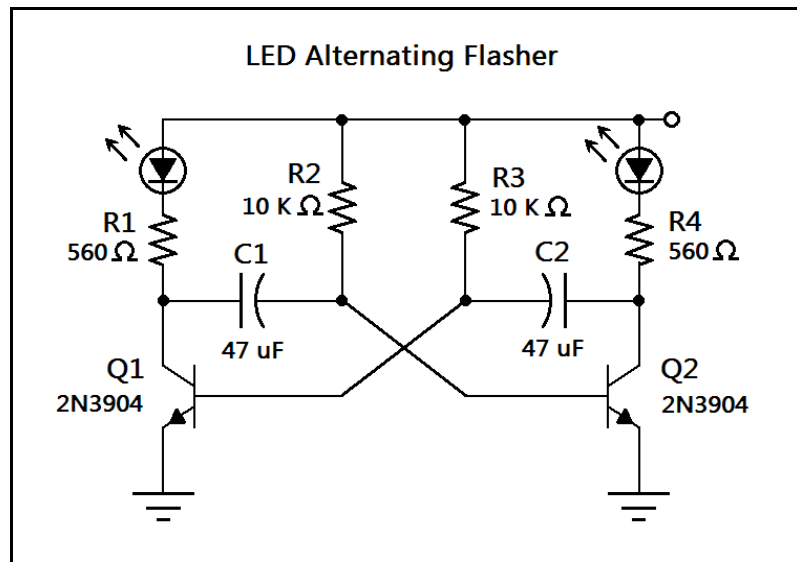
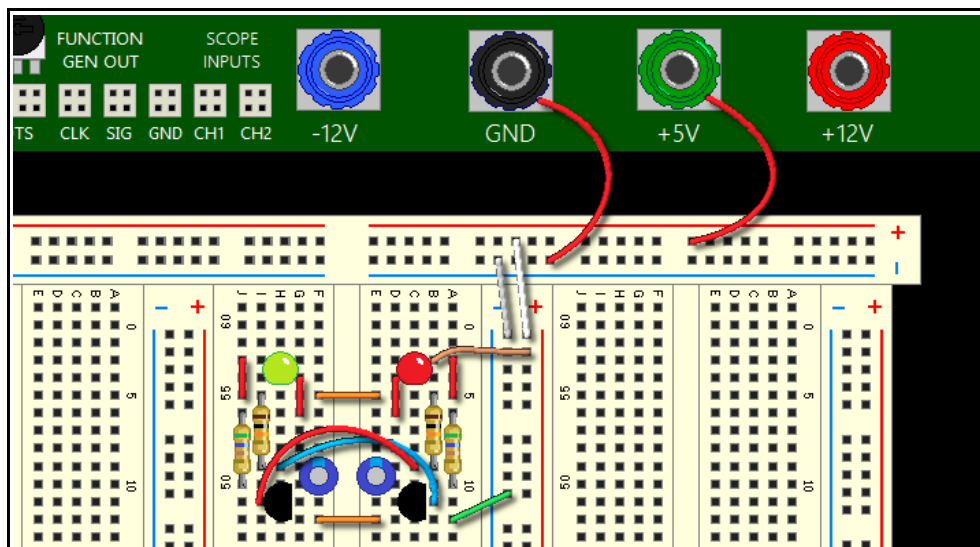

Figure 10: LED flasher circuit.
Figure 11: The LED flasher circuit on the breadboard.
1. We will first build a cute little LED flasher by using the multivibrator circuit shown in **Figure 10**. This circuit will flash two LEDs alternately at a rate of about 1 Hz to 3 Hz. Use the pictorial diagram in **Figure 11** to get an idea of what your breadboarded circuit should look like.